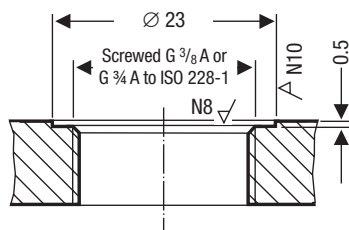

Fig. 3
- The seating surfaces of the standpipe or the flange provided on the vessel must be accurately machined, see **Fig. 3.**
4. Check seating surfaces. **Fig. 3**
5. Place supplied joint ring **2** onto seating surface of the threaded standpipe or flange. **Fig. 3**